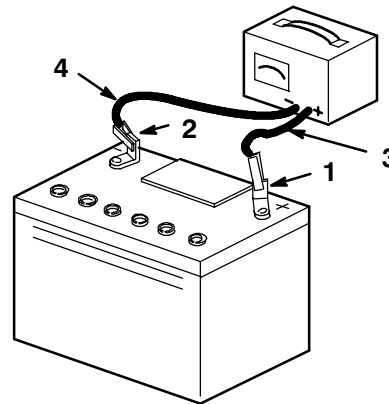

Figure 6
5. Charge the battery for 10 to 15 minutes at 25 to 30 amps or 30 minutes at 4-6 amps (Fig. 6). Do not overcharge the battery.
6. When the battery is fully charged, unplug the charger from the electrical outlet, then disconnect the charger leads from the battery posts (Fig. 6).